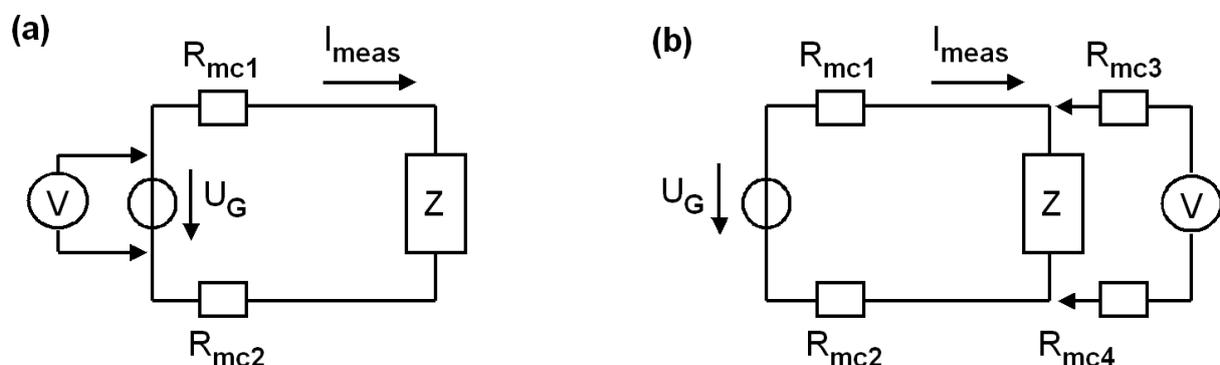

Fig. 3.3.1 (a): 2-wire (*Bode100: “One-Port”*) and **(b)** 4-wire (*“Shunt-Thru”*) measurement
2. Subsection 3.3.2 measures small values of Z with a 2-wire measurement technique that *Omicron* calls “*One-Port Impedance Analysis*“, according to Fig. 3.3.1(a): The voltmeter measures also the measurement-cable resistors R_{mc1} and R_{mc2} with high current load.
3. Subsection 3.3.3 measures Z with a 4-wire measurement technique that *Omicron* calls “*Shunt-Thru Impedance Analysis*“, according to Fig. 3.3.1(b): The voltmeter measures Z more precisely, as the 2 additional wires R_{mc3} and R_{mc4} carry very low current.